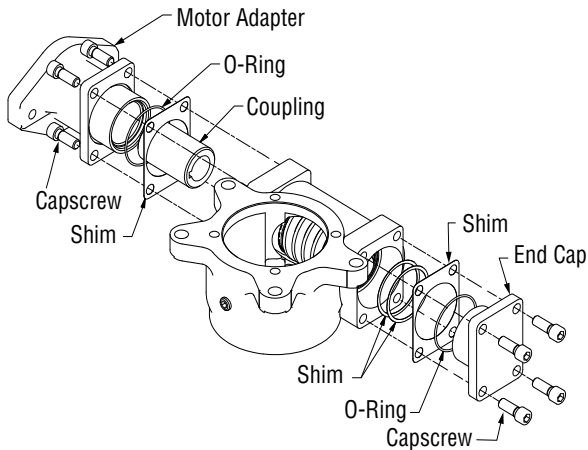

Figure 5-17, Worm Cap/Motor Adapter
10. Remove the worm cap and motor adapter. Make note of any installed shims. Capscrews are installed with Loctite, so use a long-handled wrench to break them loose. Use a large screwdriver and hammer to separate the worm cap from the housing. Note any installed shims. (Figure 5-17)